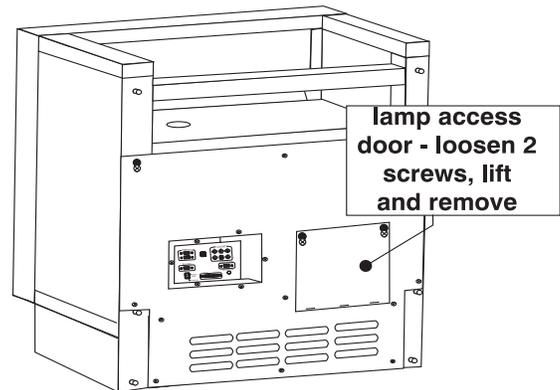

Figure 4.1. Remove lamp access door
- 1) Loosen the two (2) screws at the top of the lamp access door (on the rear access panel). Lift the door to unhook the 3 tabs on the bottom and remove. See Figure 4.1.)